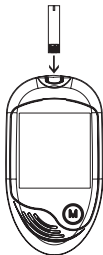

Figure 31
STEP 1: Insert the Test Strip Insert a test strip with the contact bar entering the test strip slot first. Push the test strip in as far as it will go without bending it. The meter will turn on automatically. See Figure 31.